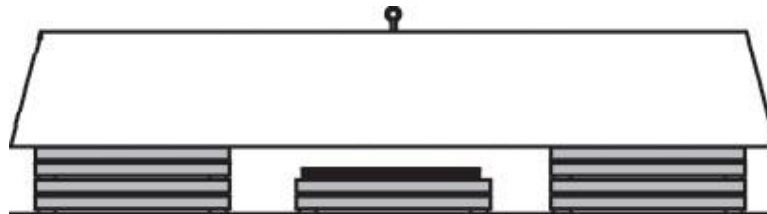

Figure 11 – Raised Foundation & Additional Supports
- 5.4.4 When there is more than a 70mm space between the ground and the object to be lifted, a firm, high enough foundation should be built, leaving just enough space to insert the deflated bag(s) (see Figure 11).
- 5.4.5 On each side of the air bag foundation, additional safety supports, such as cribbing, matting or blocking, (or a combination of all) should be used (see Figure 11). This reduces the height from which the object could fall in case of a loss of air in the air bag or malfunction of the inflation system.